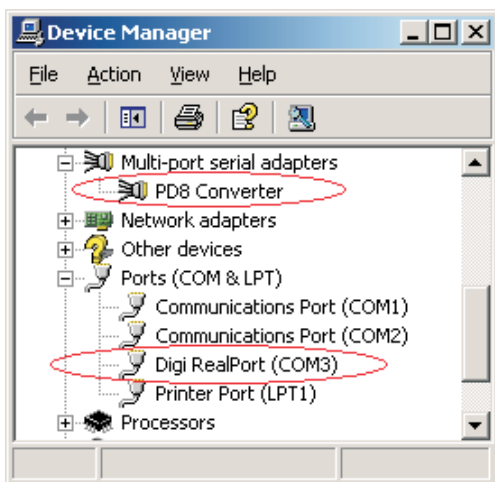

Fig. 12 Exemplary list of devices in the Windows system.
3. After the „Device administrator” window appearance (fig. 12), unroll the „Ports (COM and LPT)” branch in the tree of accessible devices. One can see that in the exemplary Windows system, three serial ports are accessible: COM1, COM2. As the result of the RealPort controller installation in the system, a successive port is accessible - virtual - COM3, denoted as Digi RealPort (fig.12).